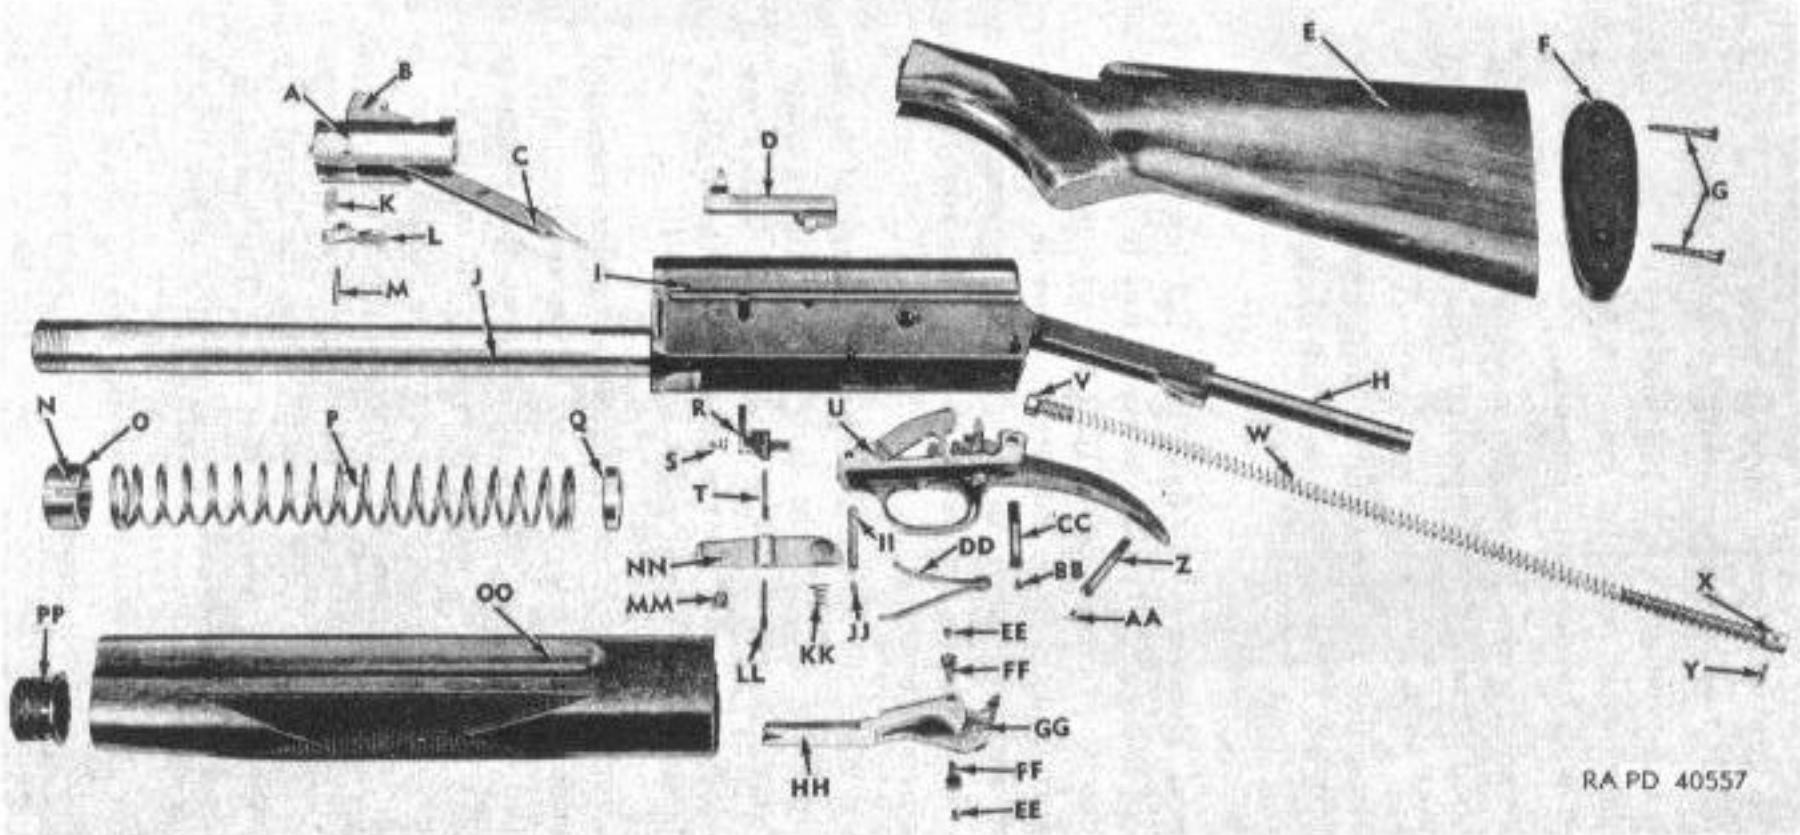

Figure 115—Disassembled View (Without Barrel)—Savage Shotgun M720
(2) The sporting skeet-type gun is usually furnished with a 26-inch plain or ribbed barrel, bored improved cylinder, and is without bayonet attachment or sling.
(3) The sporting trap-type gun is similar to the skeet-type gun but is furnished with a 30-inch barrel bored full choke, and is without bayonet attachment or sling.
e. General Description (figs. 115, 122, and 123). The general description of this gun is similar in every way to that of the Remington Gun M11 described in section VIII. The parts vary somewhat in shape in the two guns and they are not interchangeable. The position, removal, replacement, and functioning of the parts are generally the same as the Remington Gun M11. A few parts, however, are slightly different in design and nomenclature.
(1) The stock of the gun is fastened to the tang of the receiver by the tang screw passing through the tang of the trigger plate, through the stock grip, and threaded into the receiver tang. This screw is locked in place by a locking screw. To the rear end of the stock, a composition butt plate is fastened by two wood screws.
(2) The barrel has a semicylindrical extension threaded to the rear end which slides into the forward end of the receiver, and a ring guide brazed to the barrel tube which slides over the magazine tube. The magazine tube is screwed into the receiver at manufacture, and positioned by a stop screw. The recoil spring is mounted on the magazine tube together with a friction ring, friction piece, and spring. The positioning of these latter parts determines the amount of resistance (friction) set up against the force of recoil when the barrel is pulled to the rear by the breech bolt when locked to it. The barrel is reciprocated within the receiver and upon the magazine tube by the breech bolt which is locked to it during the rearward movement, and again at the end of the forward movement, by means of the locking block passing through an aperture in the barrel extension. A bead sight is driven into a ramp, pinned and brazed to the muzzle end of the barrel, and the ejector of the gun is riveted in a groove in the rear inner wall of the barrel extension.